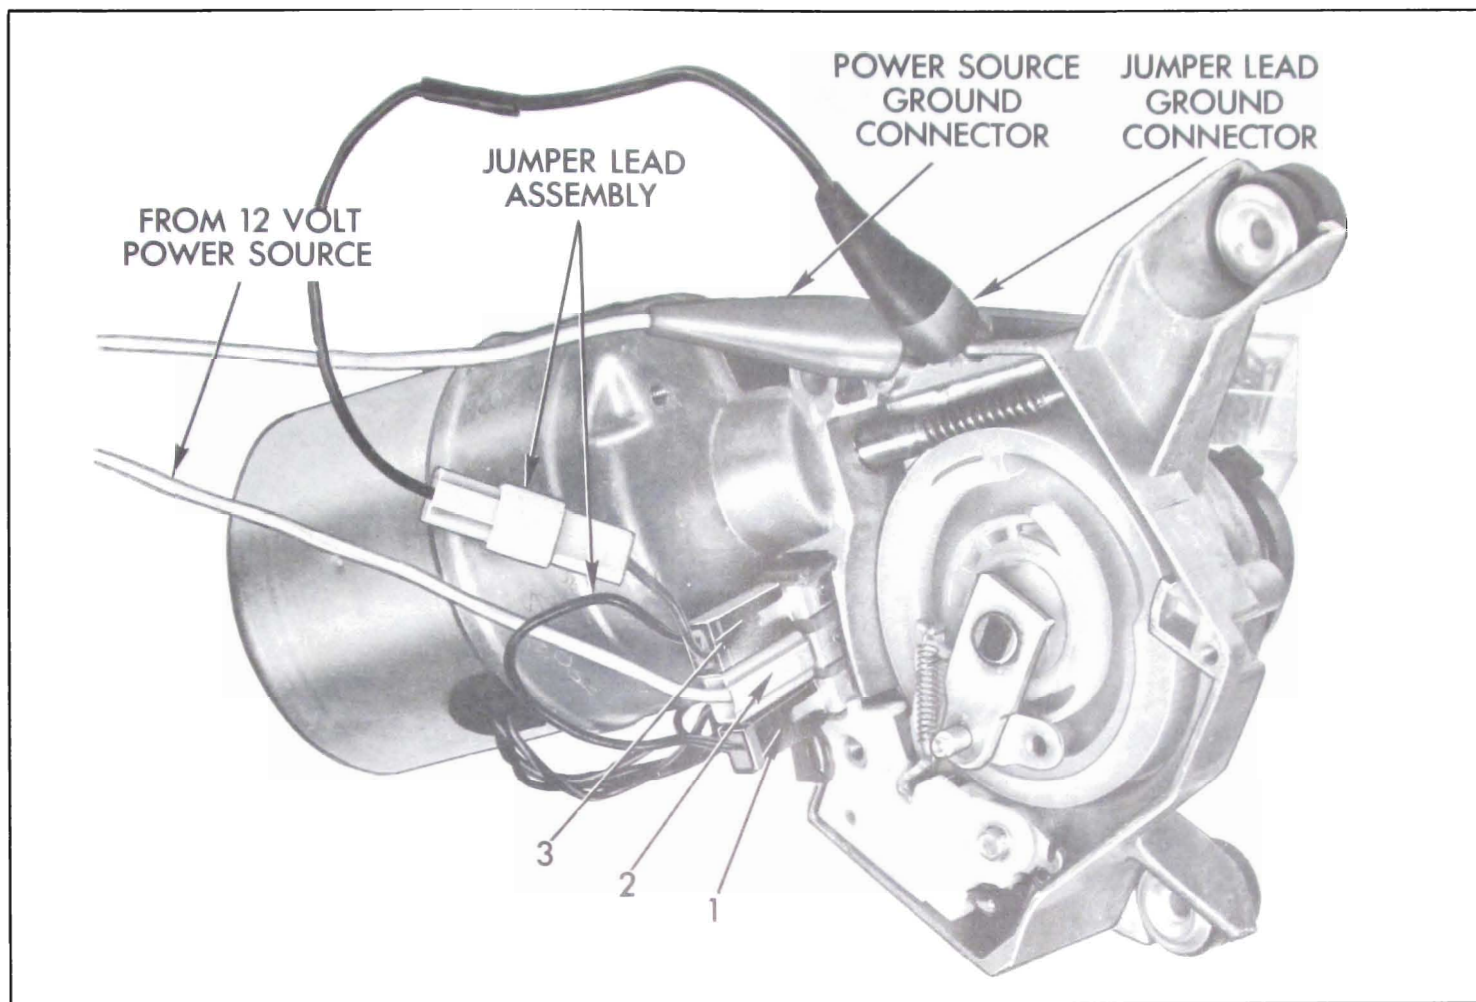

Figure 10-115—Connections to Operate Wiper Out of Car
1. Preliminary Test. Try operating wiper as shown in Figure 10-115. Check if wiper has low speed, high speed, and shuts off correctly.
- (b) Connect up wiper to operate in "Lo" speed (Figure 10-115). Connect ammeter (Range 0 - 30